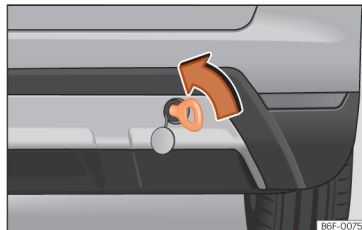

Fig. 49 On the right side of the rear bumper: towline anchorage in position.
- Screw the towline anchorage into the housing by turning it as far as it will go **anticlockwise** »» **Fig. 49** »» ⚠. Use a suitable object that can completely and securely tighten the towing eye in its housing.